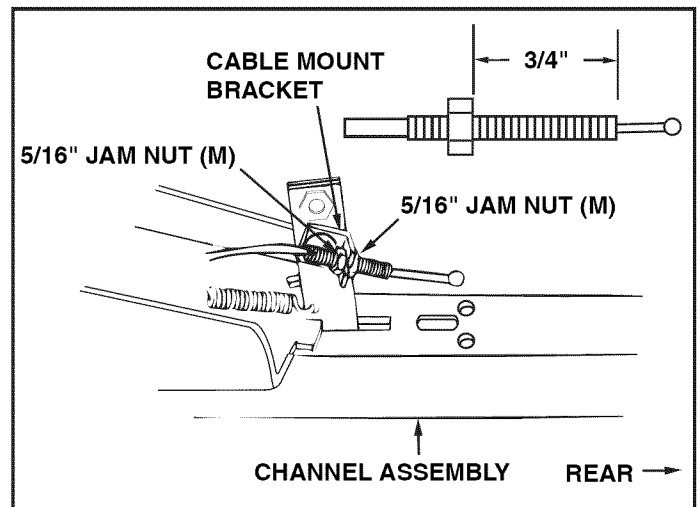

FIGURE 17 (Left Hand Side View)
- Assemble a 3/8" x 1-1/4" carriage bolt (G) through the square hole in the cable mount bracket and through the square hole in the angle lock bars as shown. (The carriage bolts should face in opposite directions.) Using pliers hold the cable mount bracket in position, angling down towards the L.H. hole in the channel as shown. Secure with a 3/8" nylock nut (K). **Tighten.** Refer also to figure 17 for the correct angle for the cable mount bracket.
STEP 17: (SEE FIGURE 17)
- Select the end of the control cable that has no rubber cap. Assemble one 5/16" jam nut (M) approximately 3/4" onto the threaded end of the control cable. Assemble the threaded cable end through the round hole in the cable mount bracket as shown and secure with another 5/16" jam nut (M). **Tighten.**